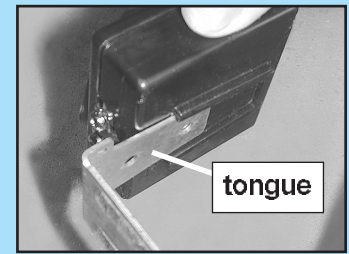

FIG. 3-3
- Slide source/sensor onto tongue of bracket until it clicks into place (Fig. 3-3).